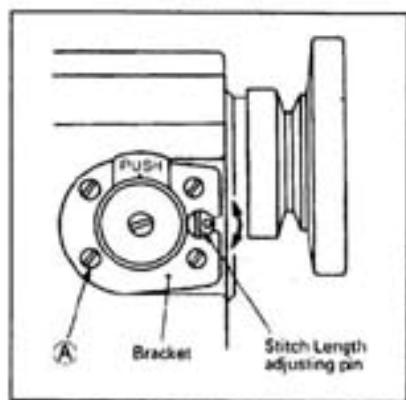

Fig.27
① - Horizontal Standard
② Up	↑..... Front up (MAX.)
③ Down Front down (MAX.)
27. Adjustment of stitch length and forward/backward sewing (Fig.27):